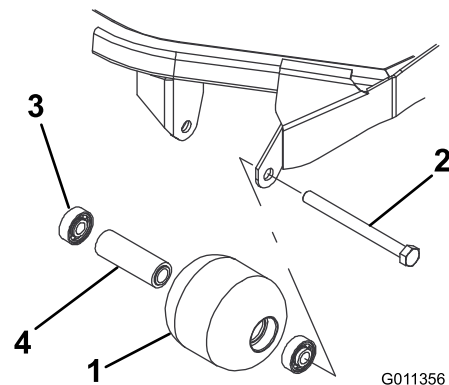

Figure 63
1. Remove the roller-mounting bolt (Figure 63).
4. Inspect the roller housing, bearings, and bearing spacer for damage (Figure 63). Replace any damaged components and assemble them.
1. Press the first bearing into the roller housing (Figure 63). Press on the outer race only or equally on the inner and outer race.
2. Insert the spacer (Figure 63).
3. Press the second bearing into the roller housing (Figure 63). Pressing equally on the inner and outer race until the inner race contacts the spacer.